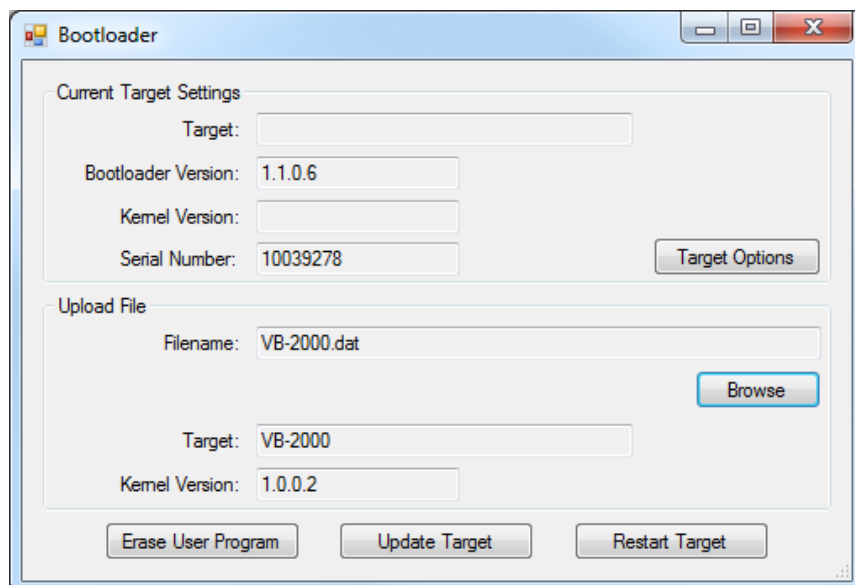

Figure 1-4 - Bootloader - Update Target
9. Click the **UPDATE TARGET** button to install the kernel. Refer to Figure 1-4.